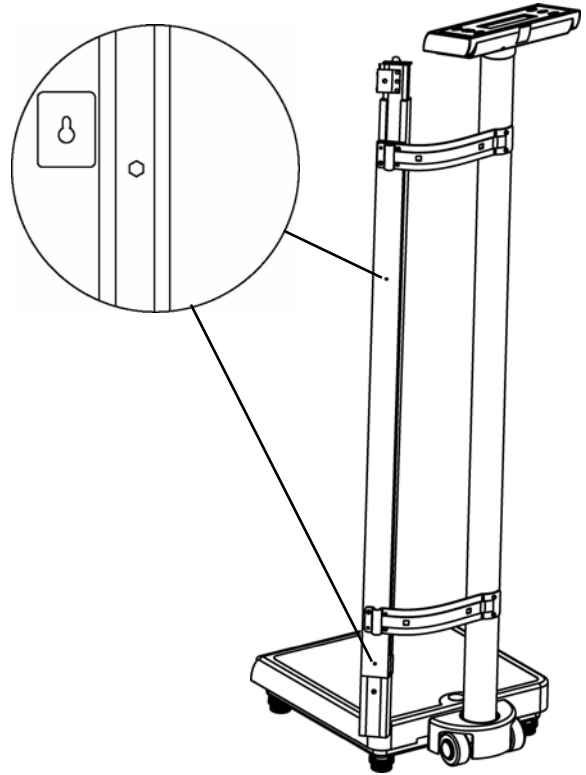

Figure No. 25
- Referring to Figure No. 25, place both height rod brackets over the two (2) hex head screws and pull down, securing brackets. Use included wrench to tighten hex head screws.